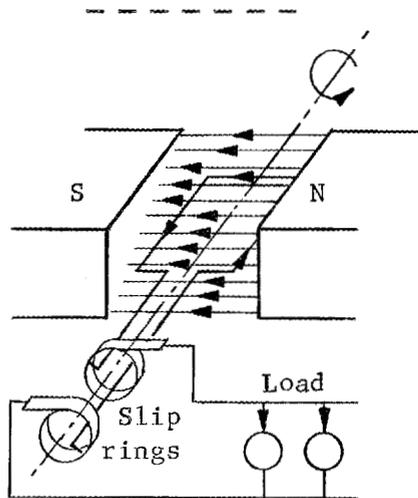

Fig. V-21. Principle of the Alternator
1. As illustrated in Figure V-19, a wire loop spun in a magnetic field will generate a voltage within itself. Figure V-21 shows the principle of the alternating current generator or alternator which uses this effect to produce useful electricity. As drawn, the coil rotates and the magnet is stationary. The same effect may be obtained by rotating the magnet (and thus its field).
3. If the rotor of the alternator in Figure V-21 rotates 3600 revolutions per minute (or 60 revolutions per second) and, according to Figure V-20, the output is one cycle per revolution, the alternator is generating _____ cycles-per-second (or hertz) ac. Public utilities in the U.S. normally generate 60-cycle ac power.
4. The alternator in Figure V-21 generates what is called "single-phase" ac. Power is transmitted by two conductors and is suitable for lighting, small motors, home appliances, electronic instruments, and many other loads. The abbreviation for single phase is "1 \emptyset " (\emptyset is the Greek letter "phi", pronounced either "fye" or "fee").
8. Referring to Figure V-21, if the single-coil rotor were to be replaced with one having three separate coils spaced equally (120° apart) around the shaft then the voltage output of each coil would reach its maximum or minimum at a different time during each rotation of the shaft.